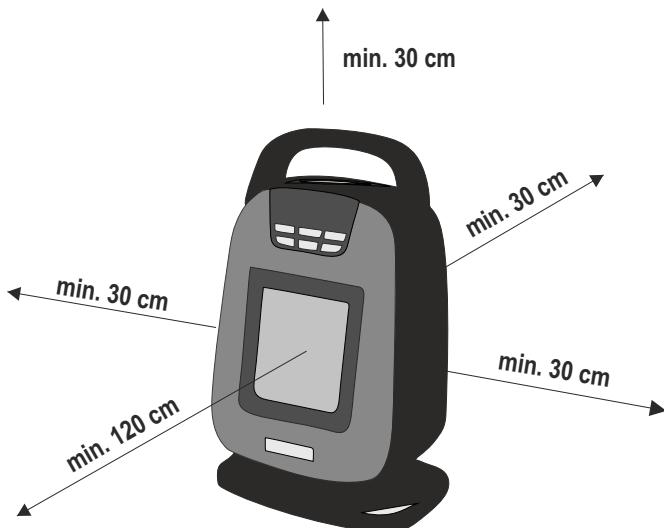

figure 2. • Abbildung 2 • 2. ábra • 2. obraz • figura 2. • 2. skica • 2. skica • 2. obrázek • rys. 2. • 2. slika
1. Confirm that the appliance has not been damaged in transit! **2.** Never locate the unit directly in corners and observe the minimum mounting distances indicated in Figure 2. Always observe the health and safety regulations valid in the country of use. **3.** The appliance must not be used with programmable timers, timer switches or stand-alone remote controlled systems that can automatically turn the unit on because any covering or improper location of the unit can cause a fire hazard. **4.** The appliance should be used as intended for heating air, not for general heating purposes. **5.** The stream of hot air should not be directed to curtains or other flammable materials! **6.** The grill covering the hot air outlet opening can be hot! **7.** Do not locate near flammable materials. (min. 100 cm) **8.** Do not use in locations where flammable vapors or explosive dust may be present. Do not use near flammable materials or in potentially explosive atmospheres! **9.** Operate only under constant supervision! **10.** Do not operate unattended in the presence of children! **11.** Only for indoor use, in a dry place. Protect from humidity (e.g. bathrooms, swimming pools)! **12.** It is PROHIBITED to use the unit near bathtubs, basins, showers, swimming pools or saunas! **13.** It is prohibited to use the appliance in motor vehicles or in tight (< 5 m²) spaces such as elevators! **14.** When not planning to use the unit for an extended period of time, switch it off then remove the power plug from the outlet. **15.** Before moving the heater, always unplug it from the power network! **16.** Only move by the carrying handle! **17.** Do not locate the appliance directly below or next to a wall outlet! **18.** If any irregular operation is detected (e.g. unusual noise or burnt odor from the unit), immediately switch it off and remove the power plug! **19.** Make sure that no foreign objects or liquid can enter the unit through the openings. **20.** Protect from dust, humidity, sunlight and direct heat radiation! **21.** Power off the unit by unplugging it from the electric outlet before cleaning! **22.** Do not touch the unit or the power cable with wet hands! **23.** The appliance may only be connected to properly grounded 230 V ~ / 50 Hz electric wall outlets! **24.** Unwind the power cable completely! **25.** Do not use extension cords or power strips to connect the unit! **26.** Do not lead the power cable on top of the appliance or near the air inlets and hot air outlets! **27.** Do not lead the power cable under carpets, door mats, etc.! **28.** The appliance should be located so as to allow easy access and removal of the power plug! **29.** Lead the power cable so as to prevent it from being pulled out accidentally or tripped over! **30.** The unit is intended for household use. No industrial use is permitted!
3. Set the appliance on a stable and horizontal surface. The free flow of warm air must be ensured for proper operation, therefore, please note the minimum installation distances indicated in Figure 2.
4. Make sure, that the unit's mode selector (3) is in OFF "0" position!